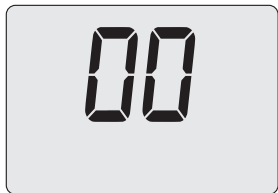

Figure 9.25
- By using buttons 16 or 17 (Figure 9.21) it is possible to modify the value of parameter P10 (00=**M270V.2025 SM** or 01=**M270V.2530 SM**) (Figure 9.25).